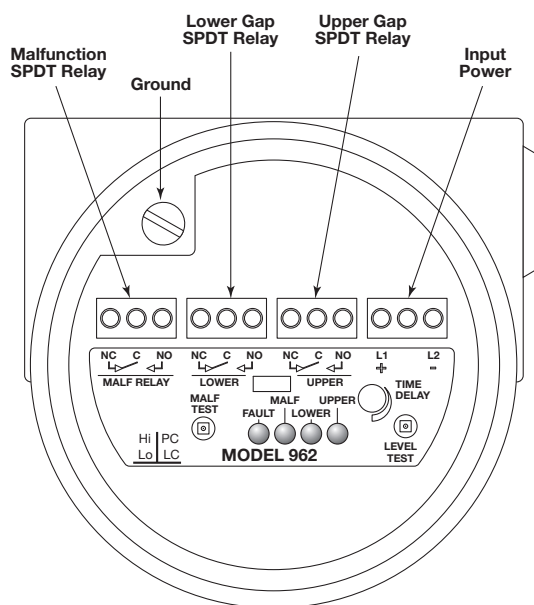

Figure 10
4. Refer to Figure 10. Connect power leads to proper terminals. Model 962 is available for AC power (102 to 265 VAC) or for DC power (18–32 VDC)
5. Connect desired relay wiring as shown in Figure 10.